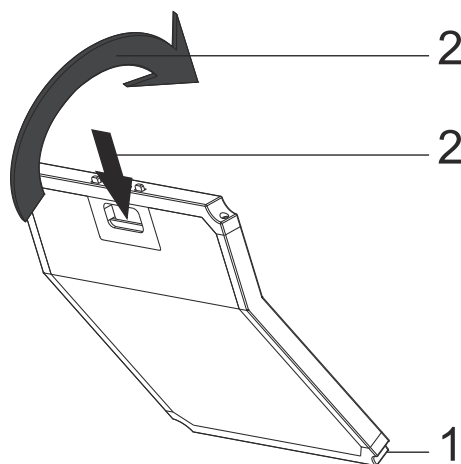

Fig. 5: CARBON FILTER
- 1-Place the lower part of the carbon filter to the motor cabinet.Fig. 5
- 2-Press on the tab of the carbon filter and push it forward, and ensure that the tabs of carbon filter are engaged and locked.Fig. 5